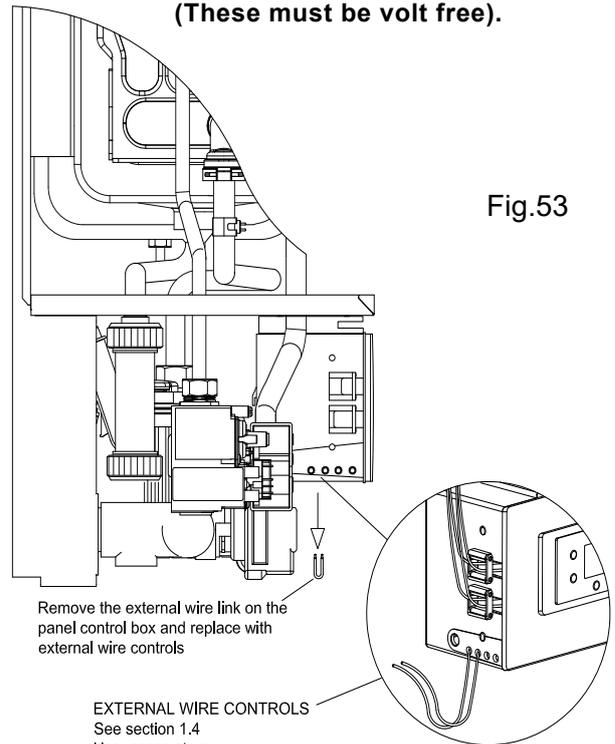

Fig.53
8.26 EXTERNAL CONTROL CONNECTION (Fig. 53)
8.23 TO REMOVE THE INSTRUMENT PANEL (Fig. 53).